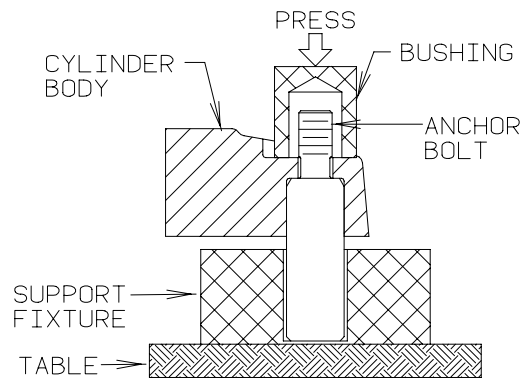

Figure 305 - Anchor Bolt Installation
(1) Reassembly Procedures
- (b) If anchor bolts were removed, install anchor bolts using an arbor press and a holding fixture. Refer to Figure 305. Insure that bolt is **perpendicular** to the cylinder and **parallel** to one another. Install washers and nuts. Dry torque nuts to 90 inch-pounds (7.9 N·m). The torque to overcome the locking feature of the nut must be added to the above torque level to obtain the true torque.